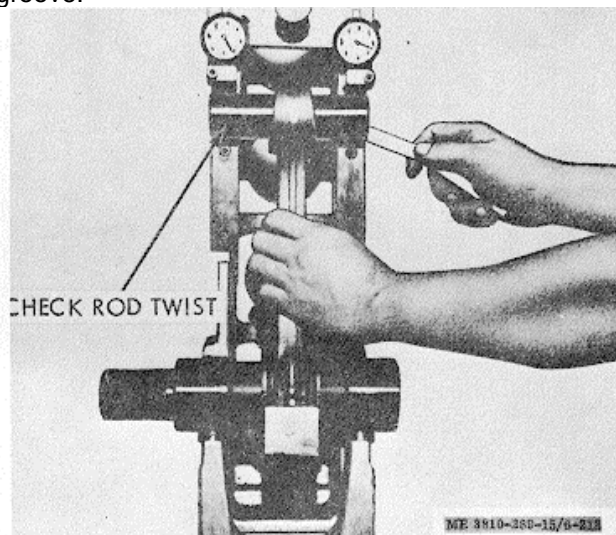

Figure 3-204. Rod twist check.
6. Measure rod twist with a feeler gage between piston pin and dial holding plate. (fig. 3-204.). When measuring connecting rod twist in ST-562 and rod does not contain piston pin bushing, twist must